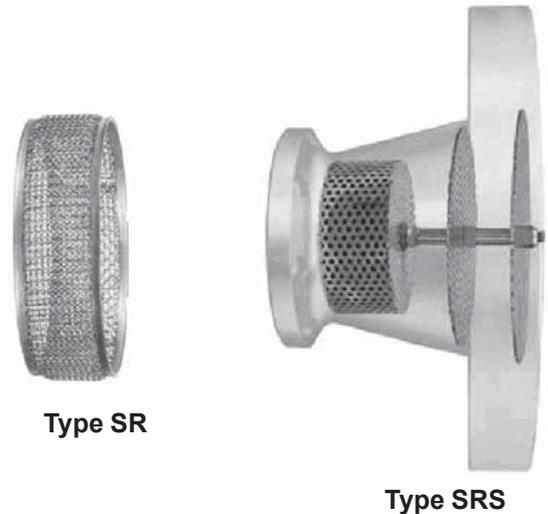

Figure 2. Noise Abatement Constructions
Type SR: The Type SR (figure 2) high velocity (up to 262 ft/s at the outlet flange) noise abatement device is incorporated into the regulator on the downstream side and consists of plated stainless steel wires containing no sound deadening materials. Depending on flows and pressure drop, the silencer can reduce noise levels as much as 20 dB (A) with an approximate 3% C_g reduction.
Type SRS: A second noise reduction device may be added to the Type Cronos regulators. The Type SRS (figure 2) consists of an Type SR plus a widened outlet flange in which a second silencer is fitted. Noise reduction is based on the principle of stream splitting and gradual expansion in several stages. By using a wider outlet flange the silencer can be mounted integral to the regulator body which allows installation of the regulator directly into the downstream piping without an expansion joint. Noise reduction up to 25 dB (A) is reached without limiting the velocity in the outlet flange. However, there is a C_g reduction of about 15%.